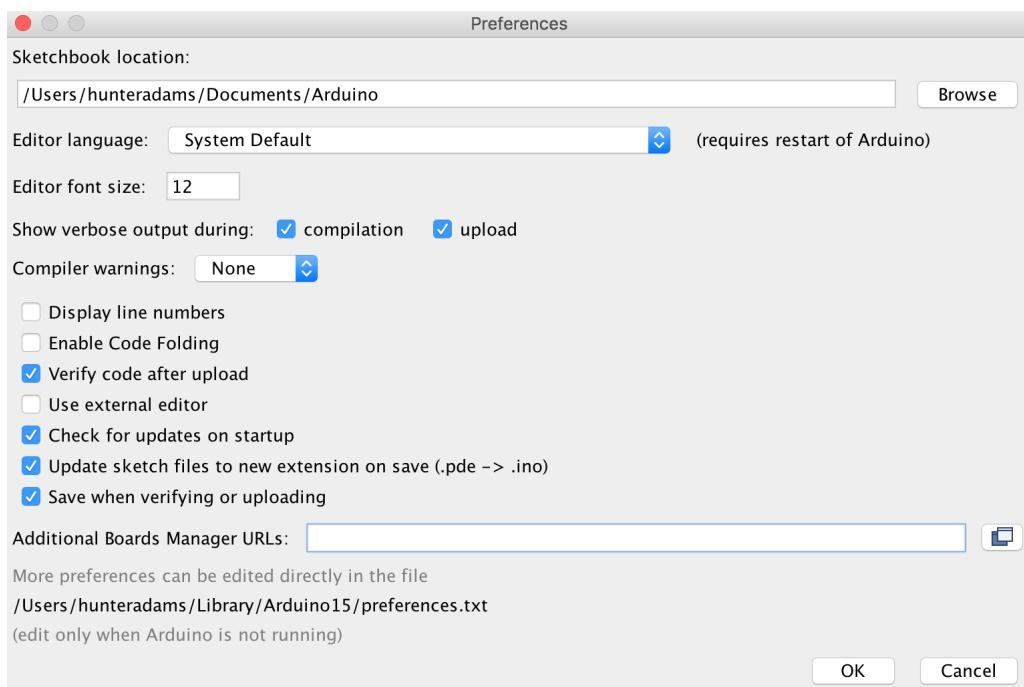

Figure 1.5: Preferences window
- First, navigate to <https://github.com/vha3/sme-lsm9ds1-library>. This is a fork of a library written by SmartEverything for the LSM9DS1 IMU. Click *Clone or Download→Download zip*, as shown fig. 1.5.